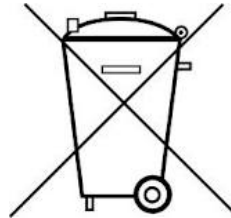

Fig. 5 ESR experiment set-up using an oscilloscope
- Connect the output "SIGNAL OUT" on the control console to channel 1 of the oscilloscope and the output "FIELD OUT" to channel 2 (see Fig. 5).